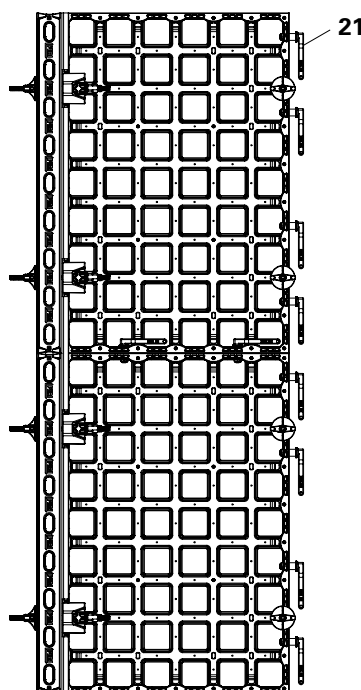

Fig. B9.01c
Connect the stopend formwork to the following formwork using 4 DUO couplers (21) for each DP 135 x 90 panel (11.4). (Fig. B9.01c)